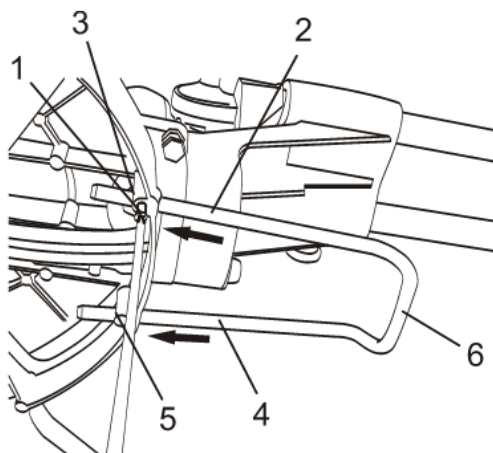

Fig. 2
1. Lock the cutting head in the down position and carefully roll the mitre saw approx. 150° counter clockwise on a clean sheet of corrugated to expose the under side of the base (Fig. 2).
2. Use a #2  $\oplus$  screwdriver and turn the balance support locking screw (1) counter clockwise until the leg of the balance support (2) can be inserted into the hole in the base casting (3).
- NOTE:** Make sure the turned-down portion of the balance support (6) is facing the bottom of the base casting.